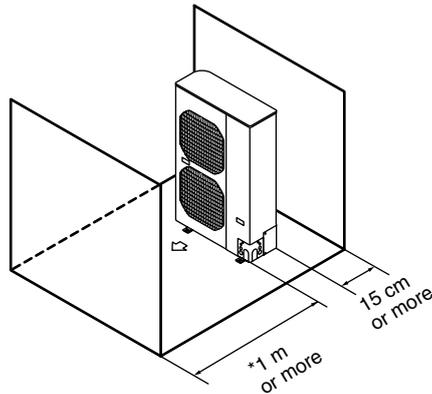

Fig. 2-6
- (2) Obstructions on the front side and rear side (Left side, right side and above the unit are opened). (Fig. 2-6)